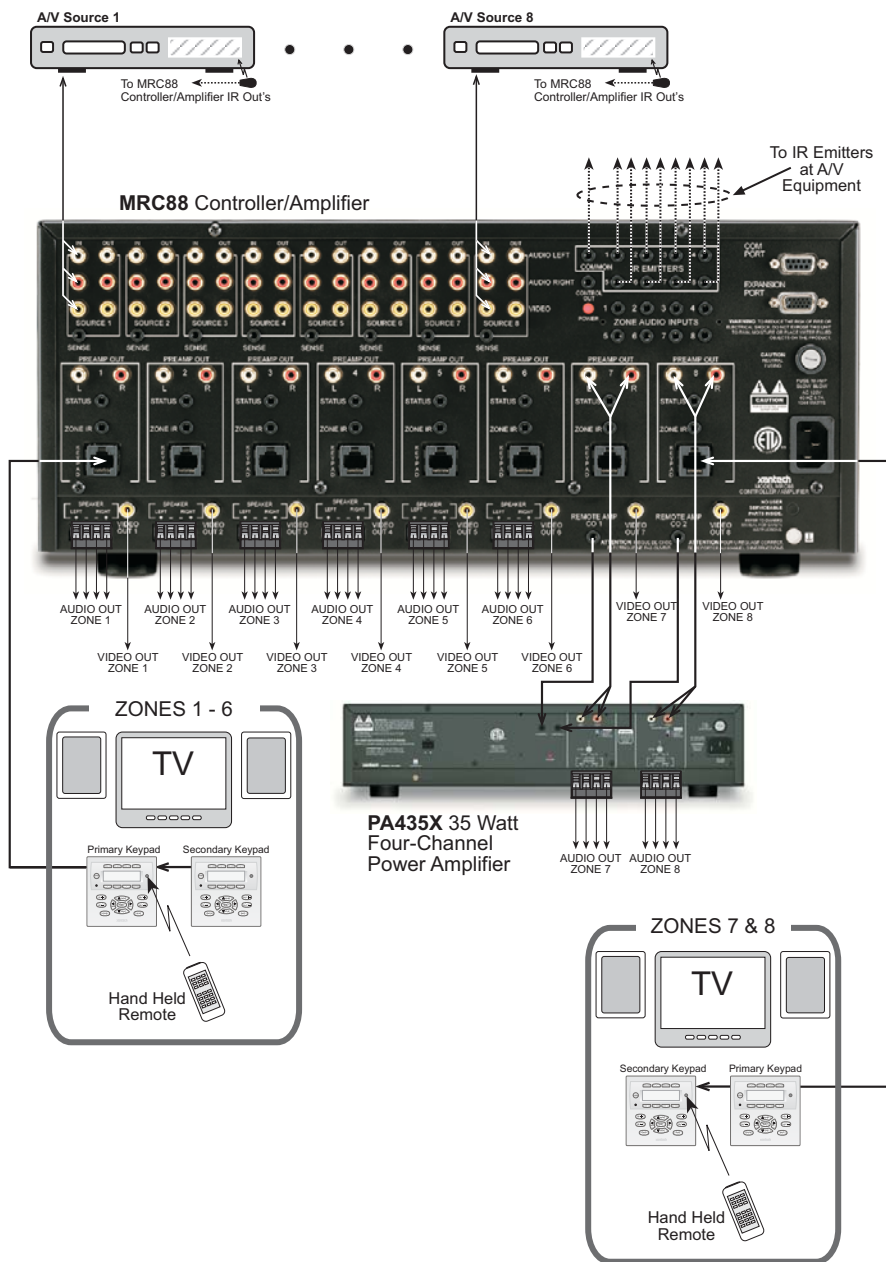

Figure 13 –Typical MRC88m System
To better demonstrate the ease and versatility of programming the MRC88m, **Figure 13** will be used to illustrate setup for a typical application.
- Assemble the components into a working MRC88m system such as that shown in **Figure 13**.